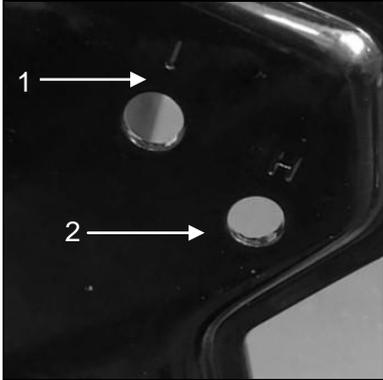

Fig.3A
1. Screw out the locking knobs which fixed the lower handle. (Fig.3A)